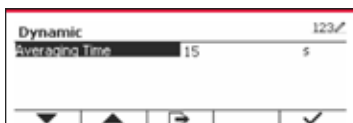

Figure 80
3. After setting the desired averaging value, press the softkey corresponding to the  icon for confirmation. (See Figure 80)